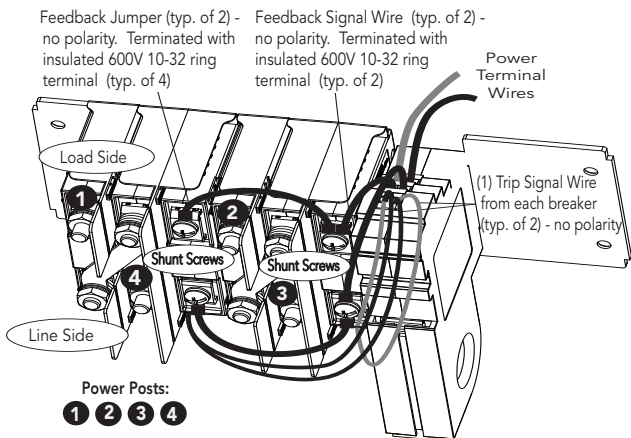

Figure 6. Pre-Wired GFPD-600V / Breaker Assembly
The GFPD-600V and breakers are assembled at the factory. Feedback jumper, shunt and trip signal leads are pre-wired to the GFPD-600V terminals - See Figure 6. The GFPD-600V external voltage source connections are described in the next section - Completing Wiring.
### 3.2.2 Completing Wiring - See Figures 6, 7 and 8
**Step 2.** Crimp the included ring terminals on the ends of the (+) and (-) solar<->breaker conductors, and attach solar array (+) wire to post (2) (load side), and solar array (-) wire to post (4) (line side) using the supplied hardware (see Figure 6).
**Step 3.** Crimp the included ring terminals on the breaker side ends of the (+) and (-) breaker<->controller wires. Attach breaker side (+) wire to post (3) (line side) and breaker side (-) wire to post (1) (load side) using the supplied hardware (see Figure 6).